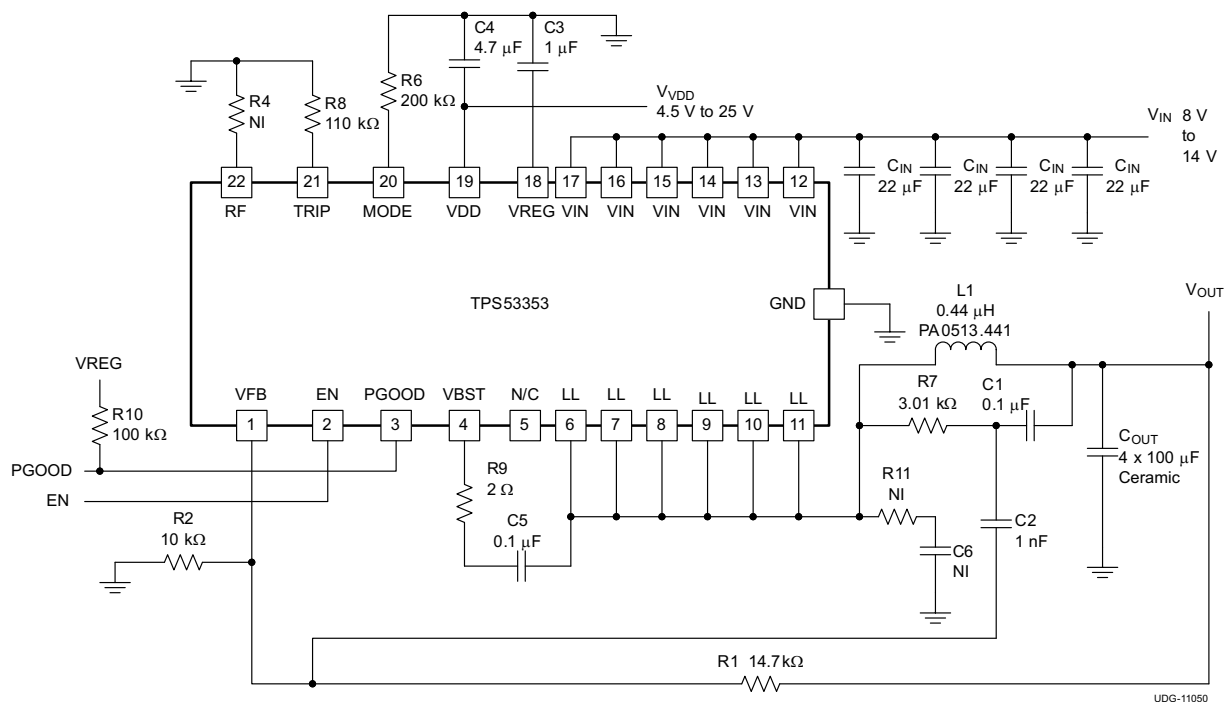

Figure 8-4. Typical Application Circuit Diagram With Ceramic Output Capacitors
When a ceramic output capacitor is used, the stability criteria in Equation 6 cannot be satisfied. The ripple injection approach as shown in Figure 8-4 is implemented to increase the ripple on the VFB pin and make the system stable. In addition to the selections made using Steps 1 through Step 5 in Section 8.2.2.2.1, the ripple injection components must be selected. The C2 value can be fixed at 1 nF. The value of C1 can be selected from 10 nF to 200 nF.
- Connect the ripple injection V_{OUT} signal (V_{OUT} side of the C1 capacitor in Figure 8-4) from the terminal of ceramic output capacitor. The AC coupling capacitor (C2 in Figure 8-4) should be placed near the device, and R7 and C1 can be placed near the power stage.